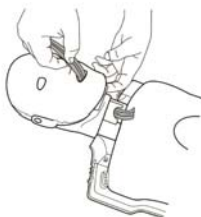

Figure 8
8. Attach the Face-Shield tabs to the 'buttons' located on the side of the manikin head (Figure 8).